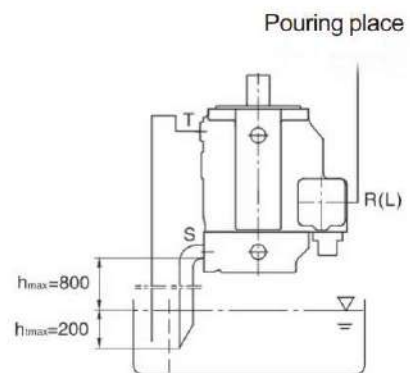

Figure 2
- When the minimum level in the tank is lower than the flange face of the pump, port R/L, T and possible port S must be connected with pipes, as shown in Figure 2. This situation is same as what is specified in Mounting outside of the Tank in this section.
Before mounting, the pump shall be placed horizontally and filled with fluid. Port T is connected with the tank and port R/L shall be blocked. Filling while mounting: Filling from port R/L and venting by port T and then blocking port R/L (see Figure 2)